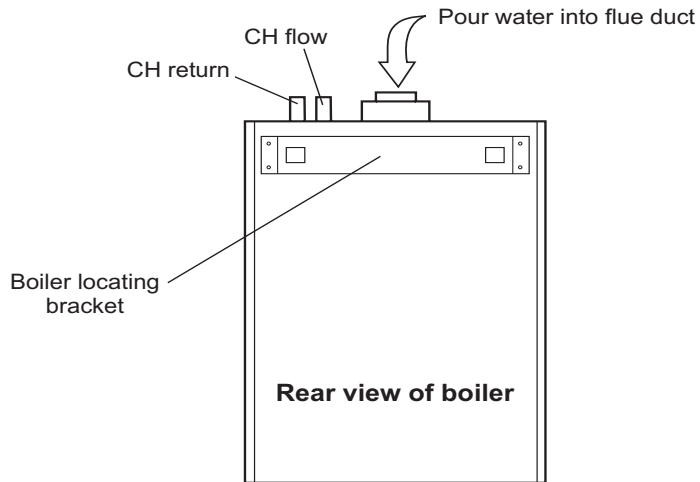

Fig. 4.3
4. Connect the 22 mm condensate trap drain pipe to the condensate discharge pipe. Ensure that the condensate discharge pipe is as required in Section 3.11. Pour at least 0.5 litre of water into the flue duct, as shown in Fig. 4.3, and check the condensate discharge pipe for soundness.